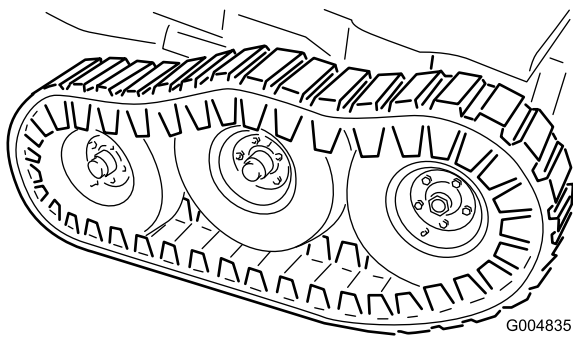

Figure 124
38. Lower the floor jack until the front wheels support the frame. Install the flat washers (1/2 inch) and locknuts on the bogie pivot stud (Figure 124) and torque to 75 ft-lb (102 N·m).